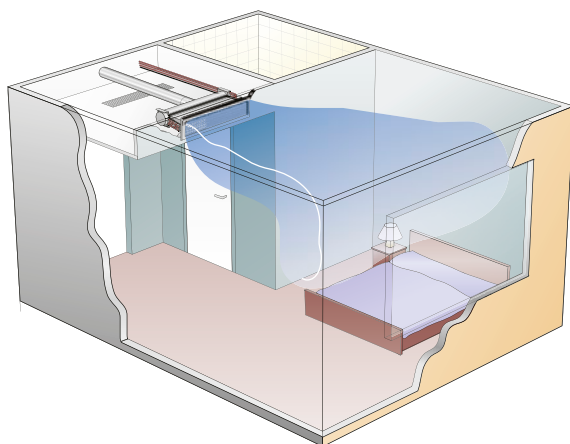

Figure 3. Ceiling-mounted PRIMO in hotel rooms.
- Ceiling-mounted PRIMO for indoor climate solutions in hotels, for example (Figure 3).